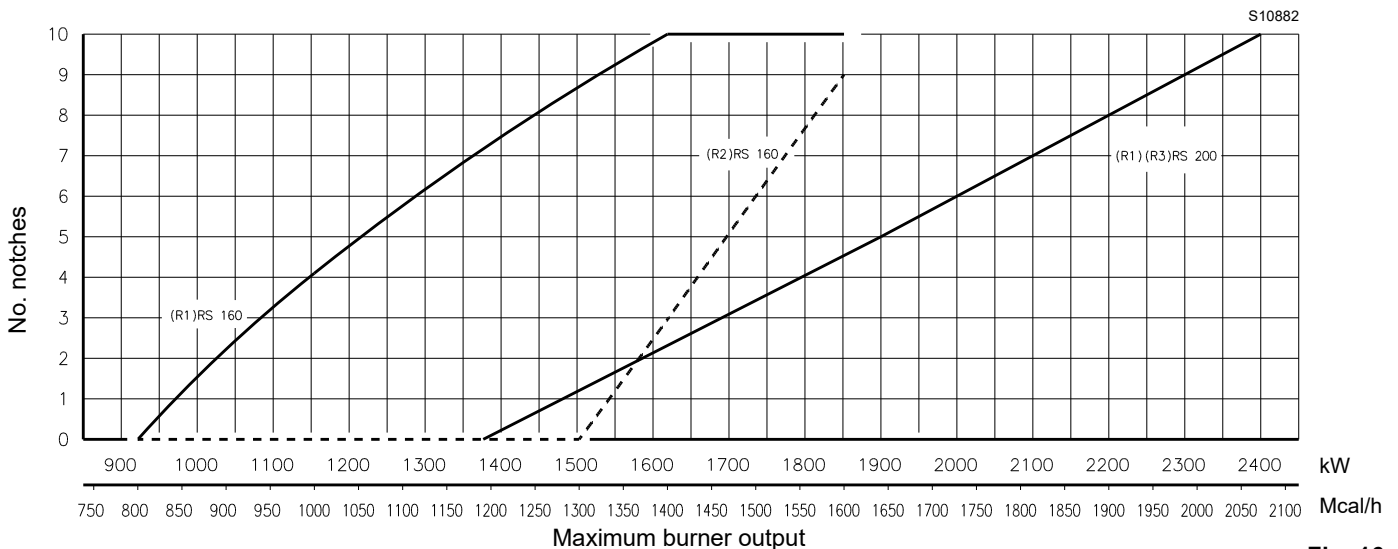

Fig. 16
In the diagram of Fig. 16, find the notch at which both air and central gas/air should be adjusted.
- Loosen the 3 screws 1)(Fig. 16) and rotate the ring nut 2) until the notch you have found corresponds with the indicator 3).
The diagram (Fig. 16) shows that for this output the settings are:
- Loosen the 2 screws 1)(Fig. 16) and rotate the ring nut 2) until the notch you have found corresponds with the screw 1).
the diagram (Fig. 16 on page 20) indicates the optimum adjustment for a type of boiler according to Fig. 4 on page 12.